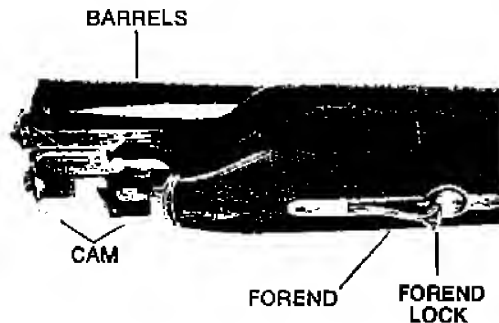

FIGURE 4—BARREL AND FOREND ASSEMBLY
1. Remove the forend from the barrels by raising the forend lock and pivoting the forend from its locked position. (See Figure 4)